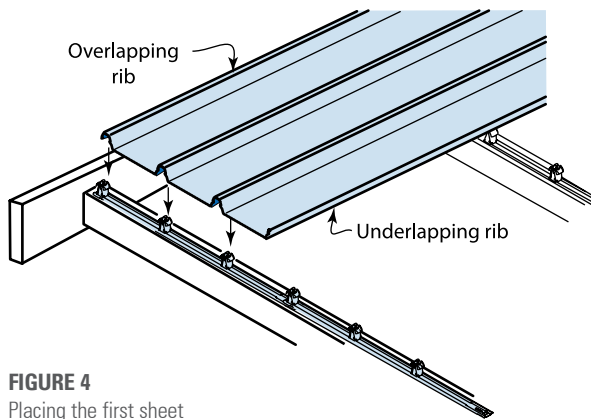

FIGURE 4
- 9 Position the first sheet so that it overhangs the desired amount (usually 50mm) to the gutter. It is important to ensure this first sheet is placed square to adjacent edges. (Figure 4.)